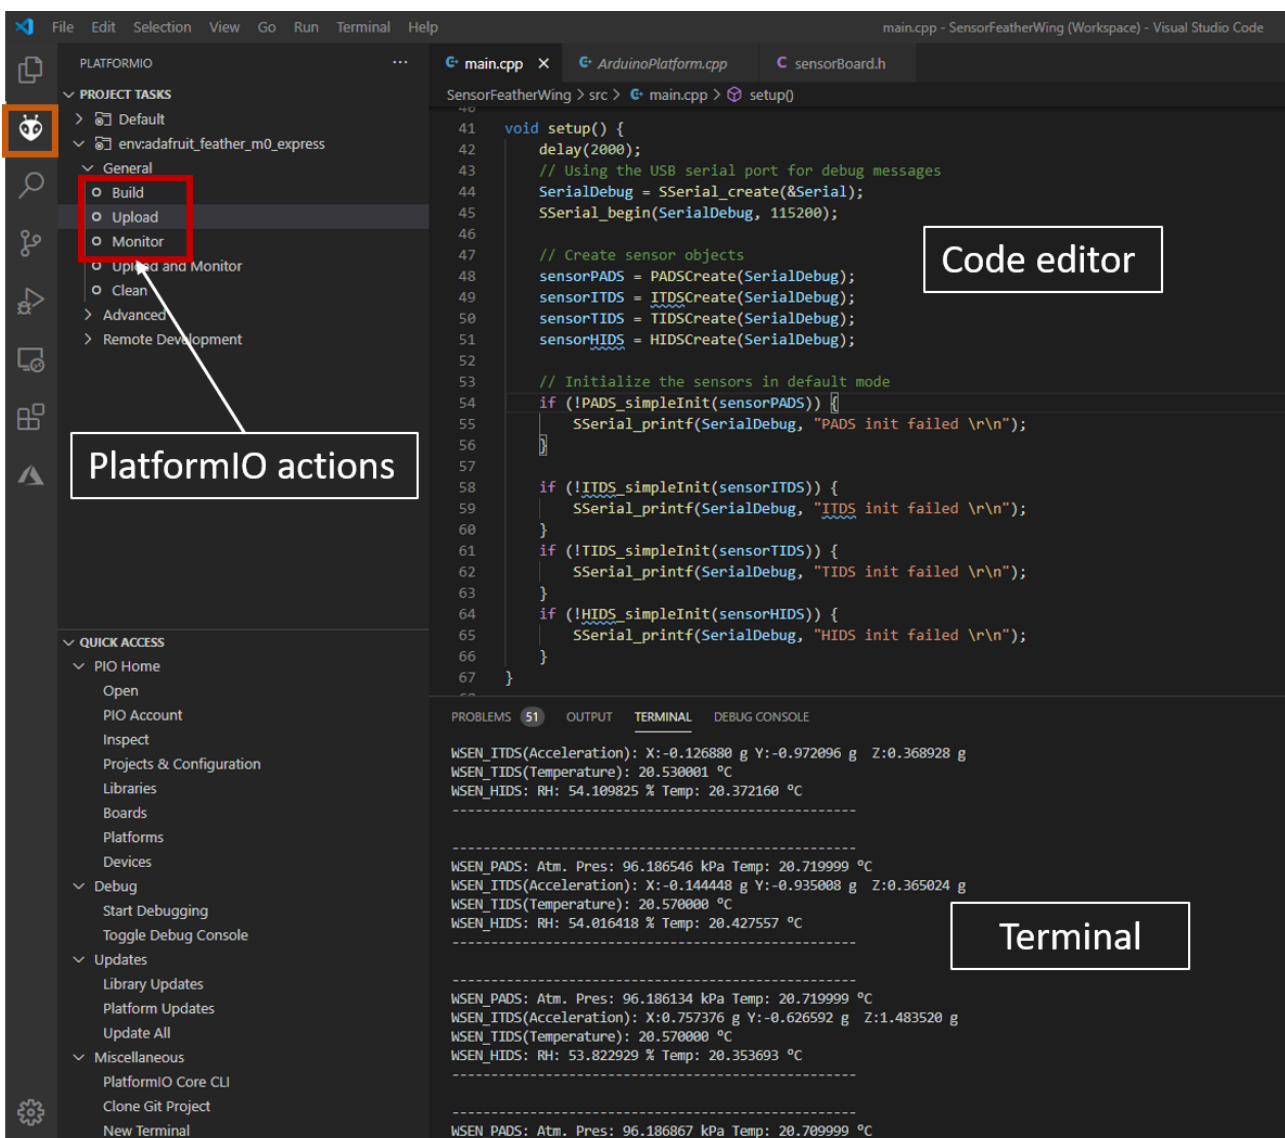

Figure 9: Running the quick start example
- Build and upload the code from the PlatformIO tab as shown in the Figure 9
- After successful upload, click on Monitor to view the debug logs in the serial terminal (See Figure 9).